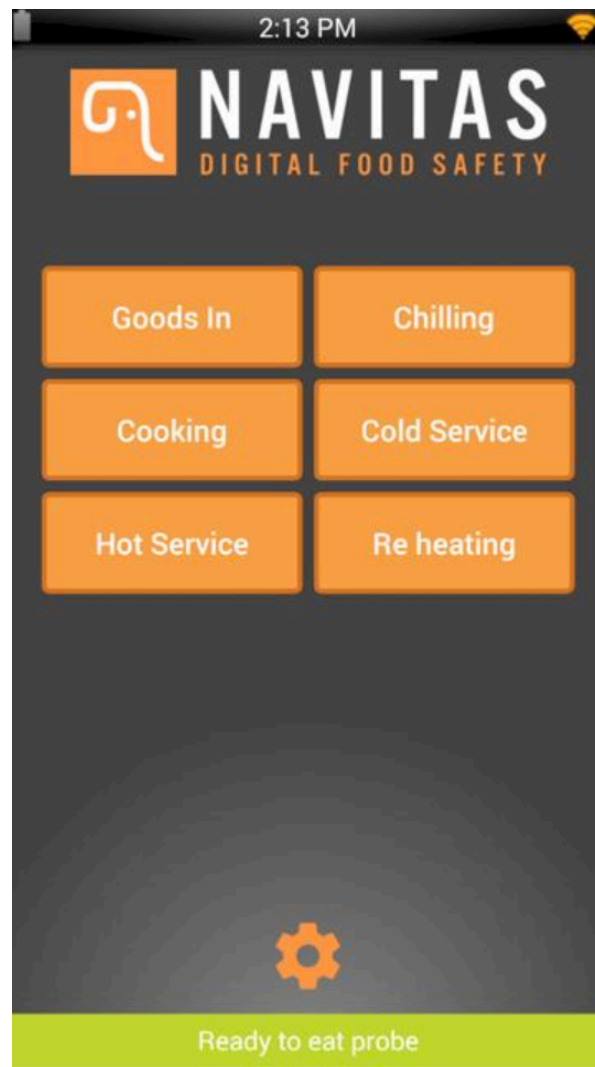

Fig. 18 – Food Service selection screen.
1. Select the chilling service (see Fig. 18).